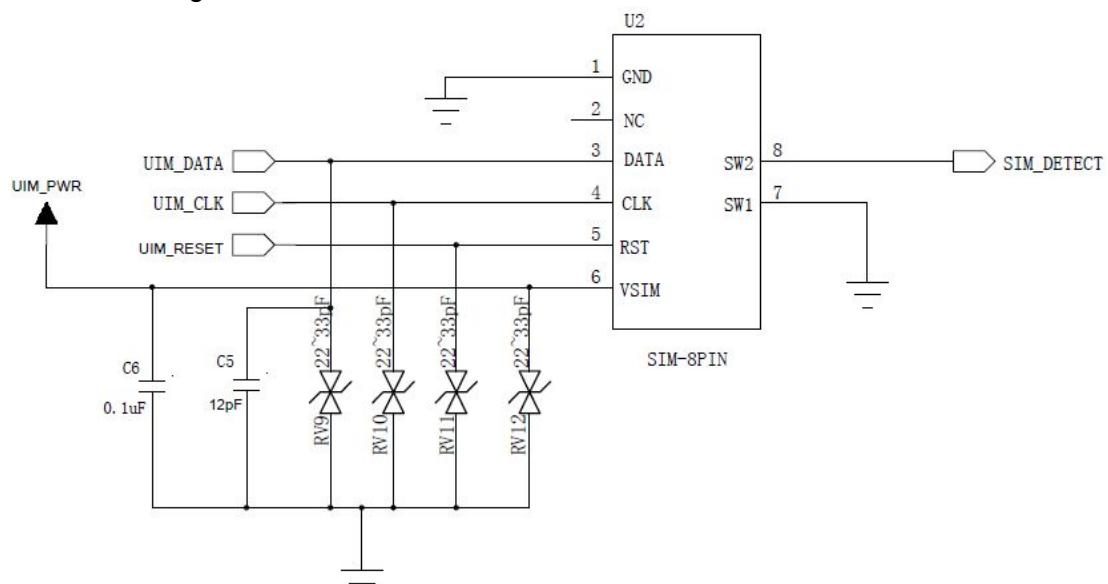

Figure 5-7 Reference Design of “Normally Closed” SIM Card Interface
- For “Normal closed” SIM card, as shown in the figure 5-7, SIM_DETECT signal line is connected to U2’s Pin8 (SW2), and Pin7 (SW1) is connected to the ground. When the SIM card is not inserted, SW2 and SW1 short circuit, SW2 will be at low level. When the SIM card is inserted, SW2 and SW1 will be disconnected, SIM_DETECT level will be pulled up.